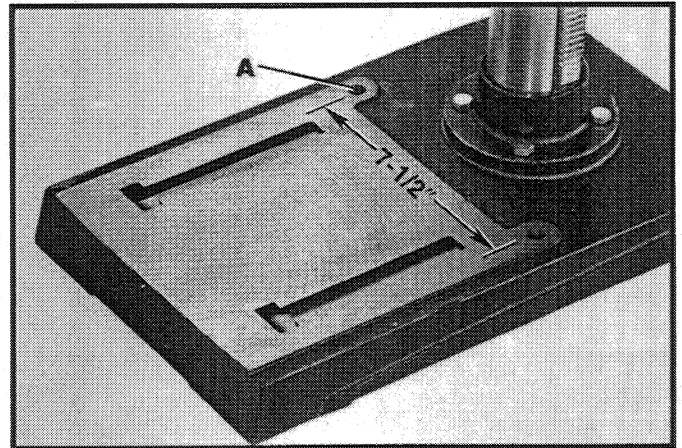

Fig. 17
If your drill press is to be used in a permanent location, it should be fastened securely to a firm supporting surface such as a stand or workbench with the two mounting holes (A) Fig. 17, in the drill press base.
When mounting the drill press to a workbench, 3/8" holes should be drilled through the supporting surface of the workbench at a distance of 7-1/2" between the holes as shown in Fig. 17. Bolt the drill press to the workbench using the 3/8" holes and the carriage bolts, nuts, and washers furnished with your drill press.